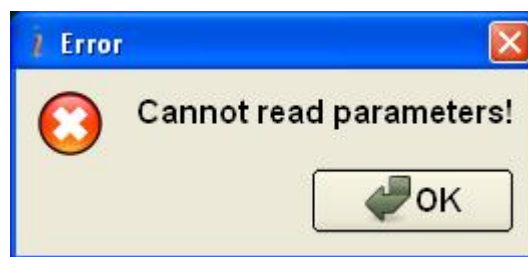

Fig. 4.3
**Note:** you can select «**Device option...**» item only if AHRS is powered and connected to computer, and COM port number is chosen properly. In the other case the error window with message «**Cannot read parameters!**» appears over above window (see Fig. 4.3). Click «OK», then close «**Device Options**» window and choose the correct COM port number (see section 4.1. Test options).